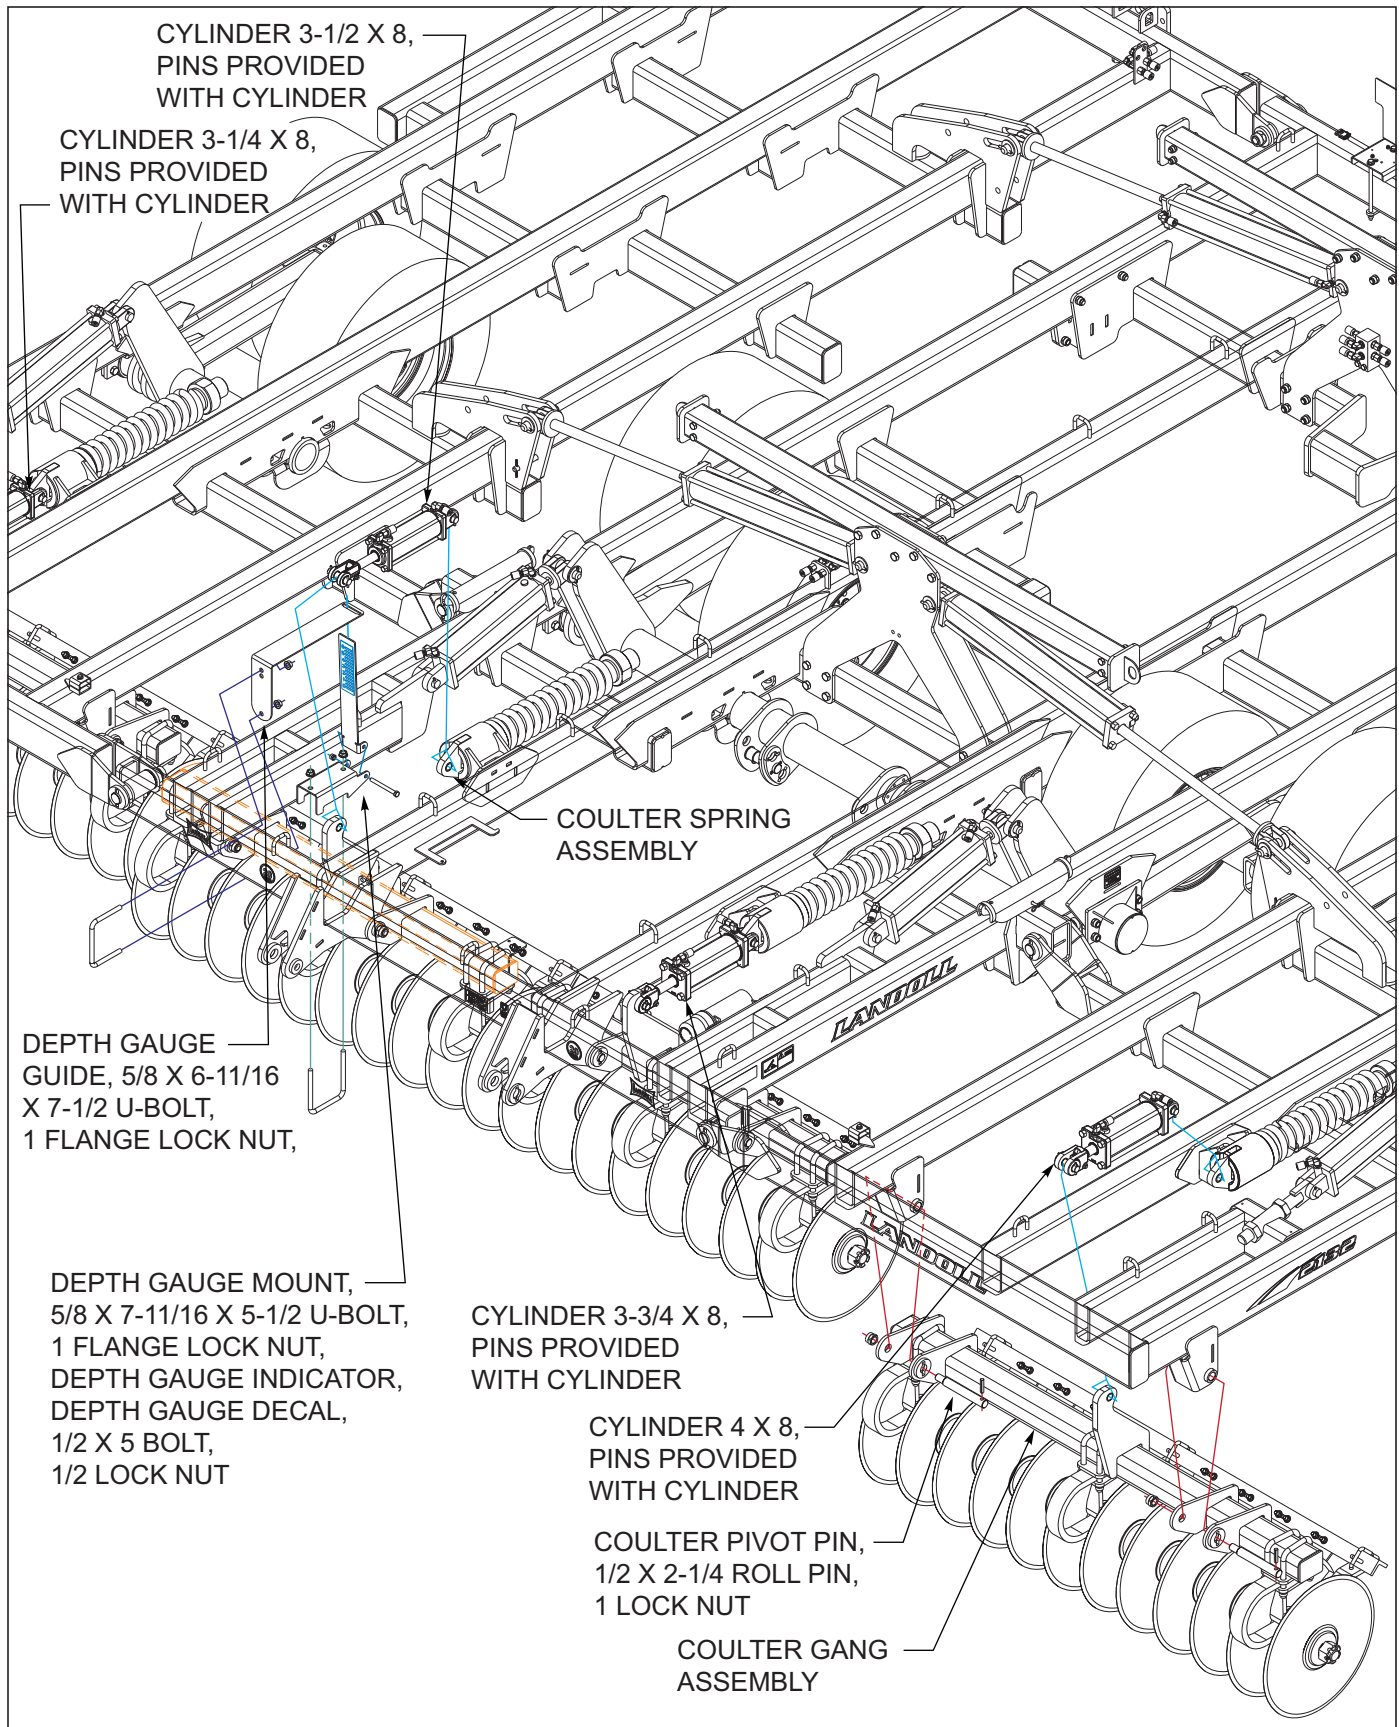
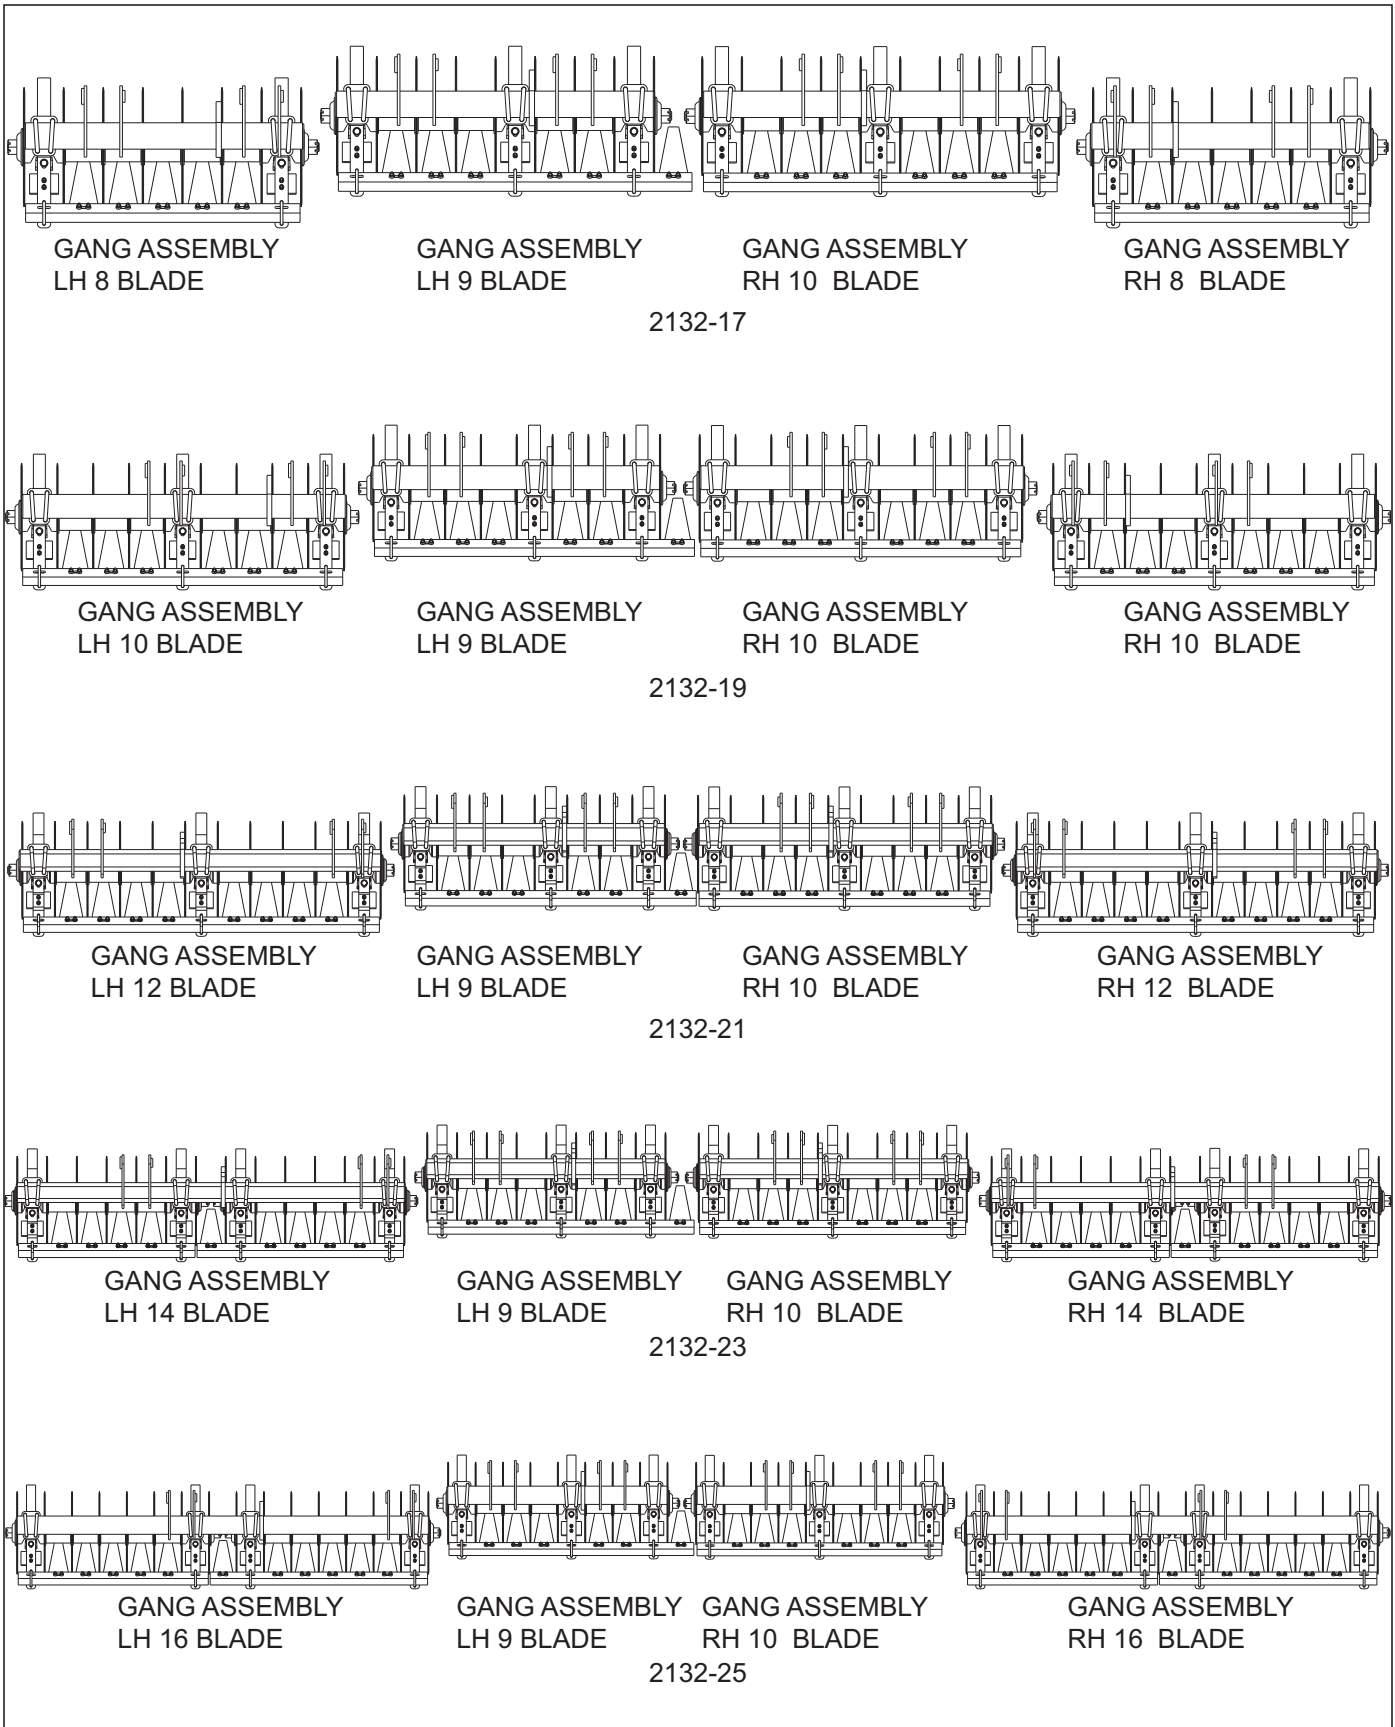

Figure 3-6: Coultter Gang Installation
Figure 3-7: Coulter Gang Placement
1. Attach the coulter gang assemblies to the center and wing frames using coulter pivot pin, 1 lock nut, and 1/2 x 2-1/4 roll pin See Figure 3-6 and See Figure 3-7 for gang assembly placement.